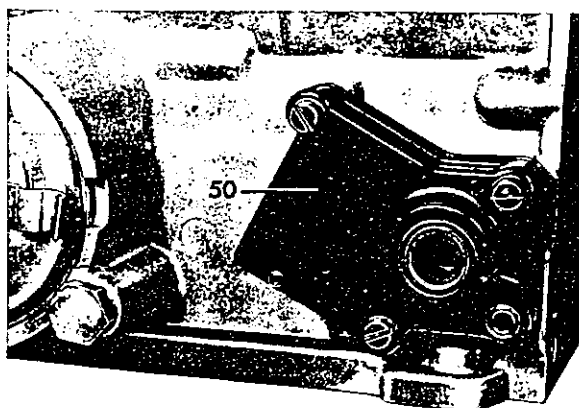

Fig. 30
5 Mount starter lock-out and back-up light switch (50) and tighten bolts to specified torque Fig. 30